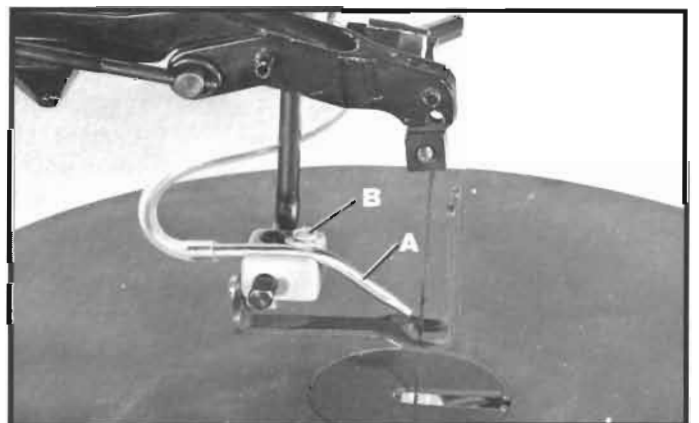

Fig. 24
The dust blower (A) Fig. 24, may be moved to direct air to the most effective point on the cutting line by loosening screw (B), adjust nozzle (A) accordingly and tighten screw (B).